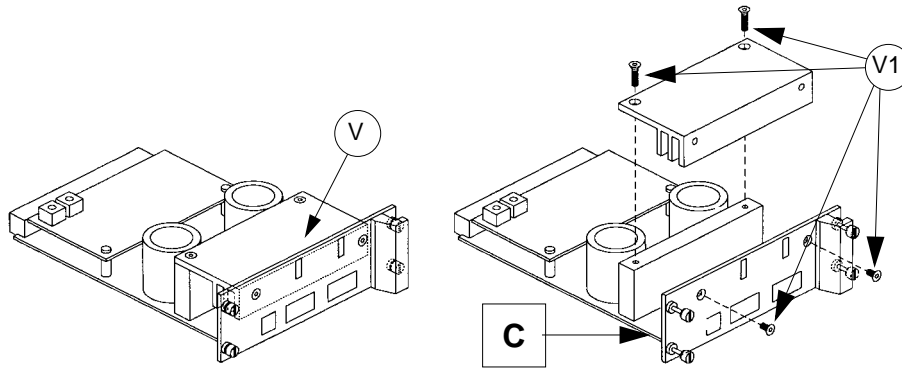

Fig. 30
To replace this fuse, remove the 1st ST2DRV module from the rack (chap. 9.6, page 41). Remove the four screws (V1) in order to separate the top part (V) of the dissipator and gain access to fuse C on the circuit board (fig. 30).
N.B.: after replacing the fuse, fit the dissipator (V) securing the locking screws (V1) tightly to ensure good heat conductivity between the parts in contact (fig. 30).
To replace this fuse, remove the 2nd ST2DRV module from the rack (chap. 9.7, page 42). Remove the four screws (V1) in order to separate the top part of the dissipator and gain access to the fuse on the circuit board (fig. 30).
N.B.: after replacing the fuse, fit the dissipator (V), securing the locking screws (V1) tightly to ensure good heat conductivity between the parts in contact (fig. 30).
To replace this fuse, remove the 3rd ST2DRV module from the rack (chap. 9.8, page 43). Remove the four screws (V1) in order to separate the top part (V) of the dissipator and gain access to the fuse on the circuit board (fig. 30).